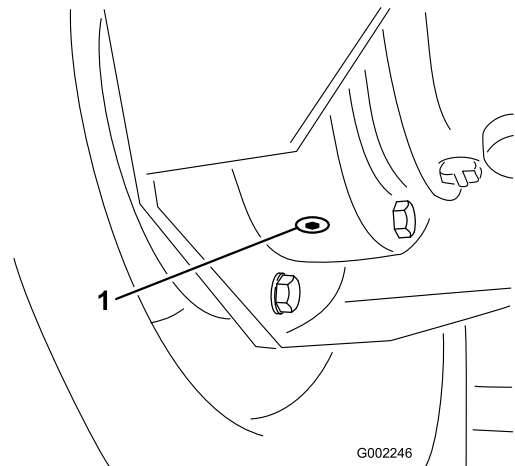

Figure 50
4. Place a pan under the inner drain plug and remove it (Figure 50).